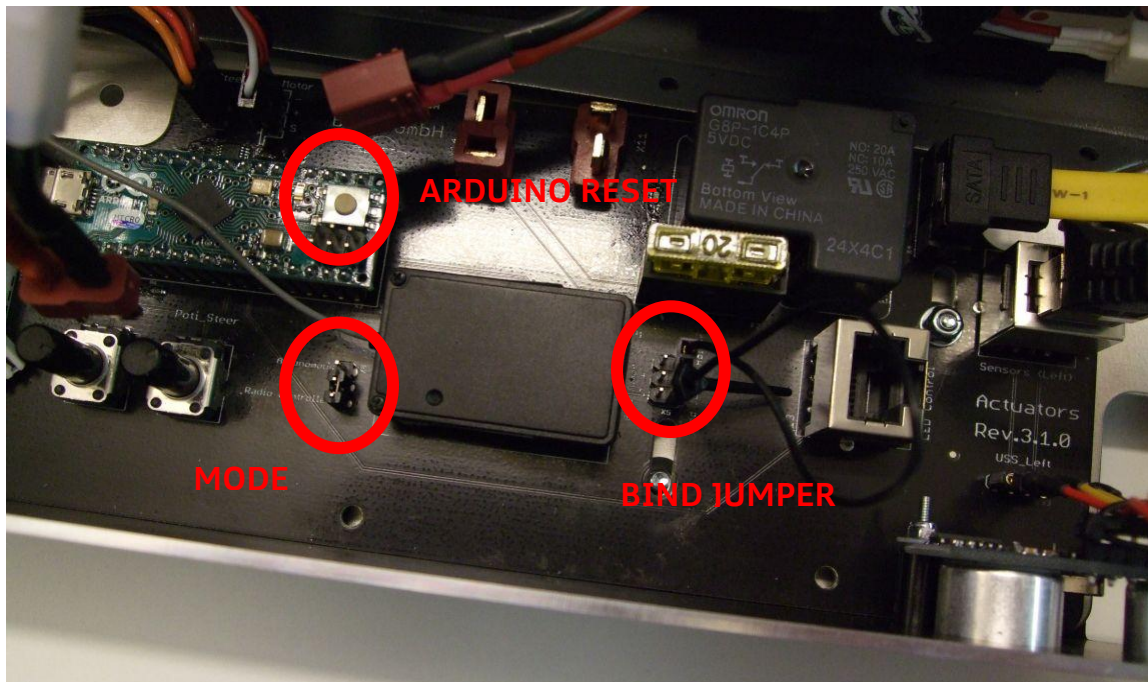

Figure 39 Jumpers Radio Controller
2. Then the Mode Jumper has to be set to the *Radio controlled* position as shown in Figure 39.